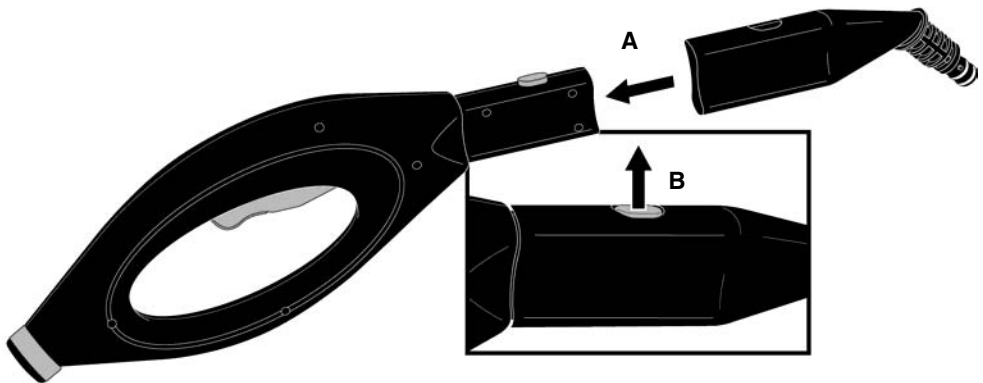

FIGURE 1
1. Align Steam Jet Nozzle with Main Nozzle as shown (FIGURE 1-A).
2. Press down on the yellow locking button located on Main Nozzle. While continuing to hold button down, slide Steam Jet Nozzle onto Main Nozzle. Push Steam Jet Nozzle over button, and continue to push it on until button snaps through hole on Steam Jet Nozzle (FIGURE 1-B).